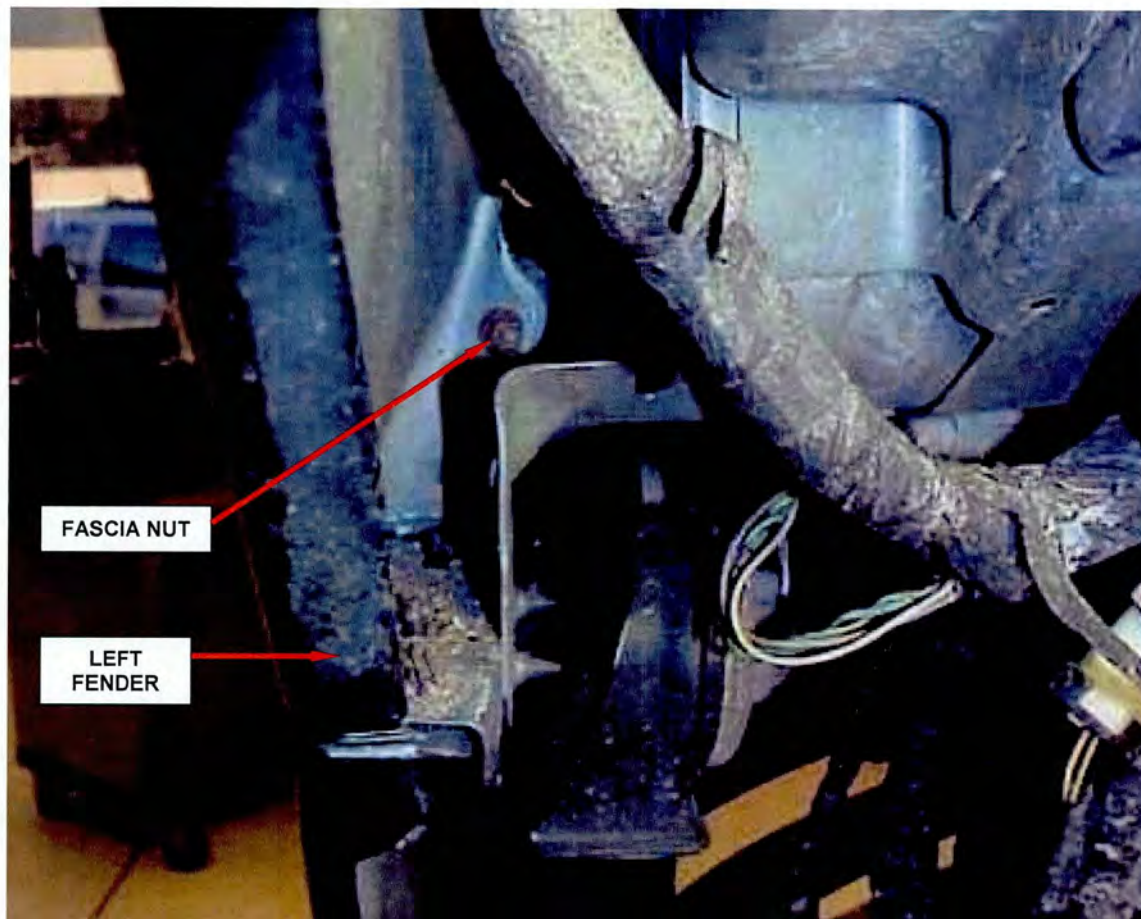

Figure 3 - View from Inside Wheel Opening (Left Side Shown)
- g. Pull the wheelhouse shield back from the front fascia and remove the right and left nuts holding the front fascia to the front lip of the fender (Figure 3).